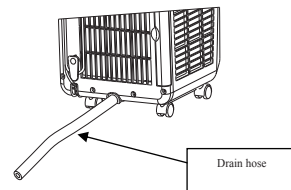

Figure 12
- 2). Insert the OD 0.5in PVC drain hose 0.3in-0.4in into the water outlet; (Figure 12)